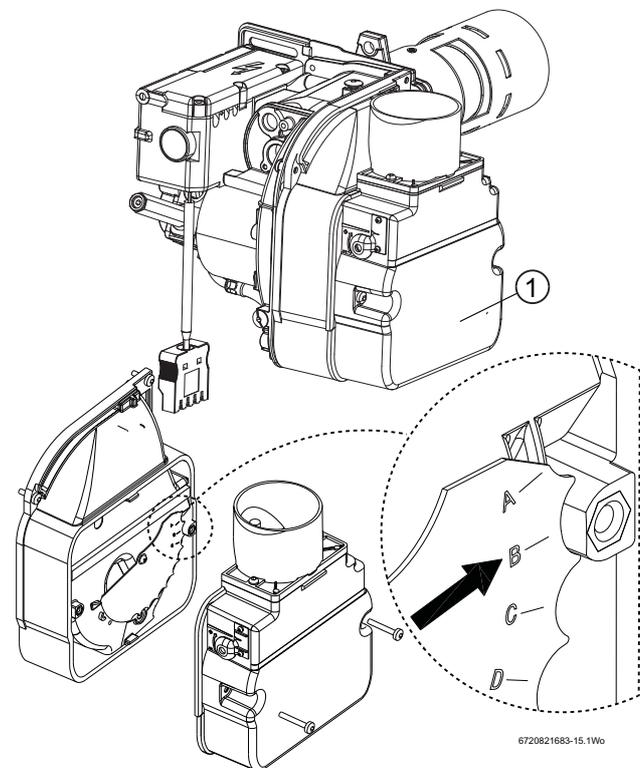

Fig. 51
Adjust position of the air damper disc to suit the burner output (→ table 7 on page 34), located as shown in figure 51. Access is by removing the two screws (SC) to release the air inlet manifold [1].